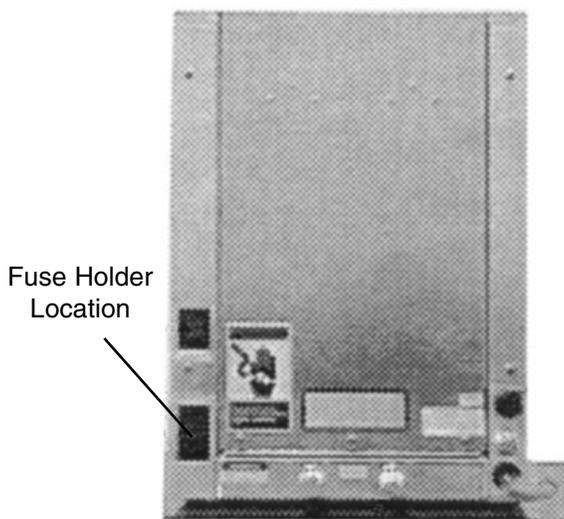

Figure 13: Fuse Holder Location
2. Locate the fuse holder, part of the power entry module (see Figure 13 for location), and remove.